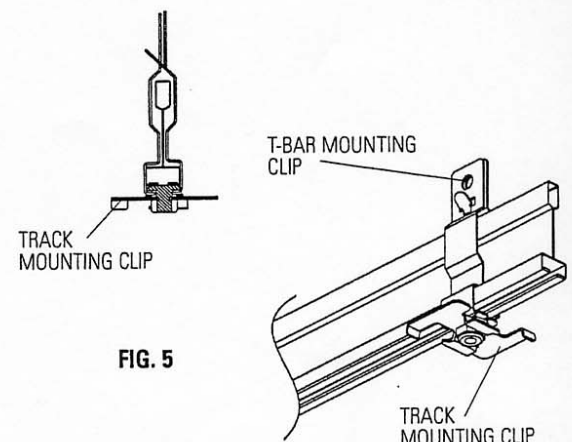

FIG. 5
4. Assemble CLIPS to TRACK MOUNTING CLIPS to the T-BAR. TRACK MOUNTING CLIPS must rotate after assembly. (Fig. 5)